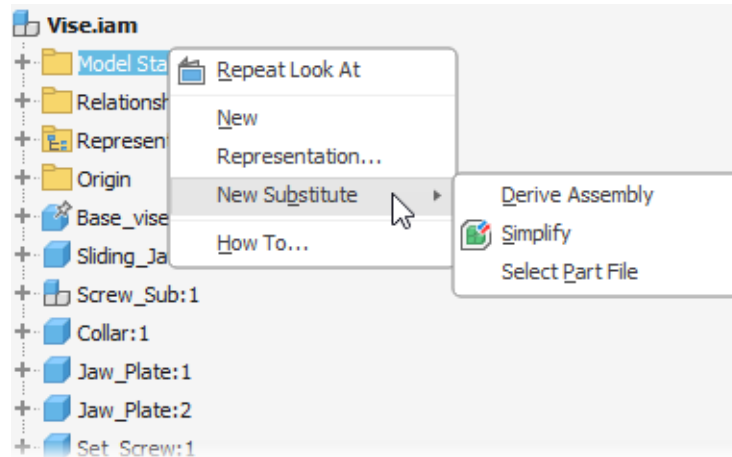

Figure 6
3. In the Model browser, right-click on a model state node and expand **New Substitute**. Select one of the options shown in Figure 6.